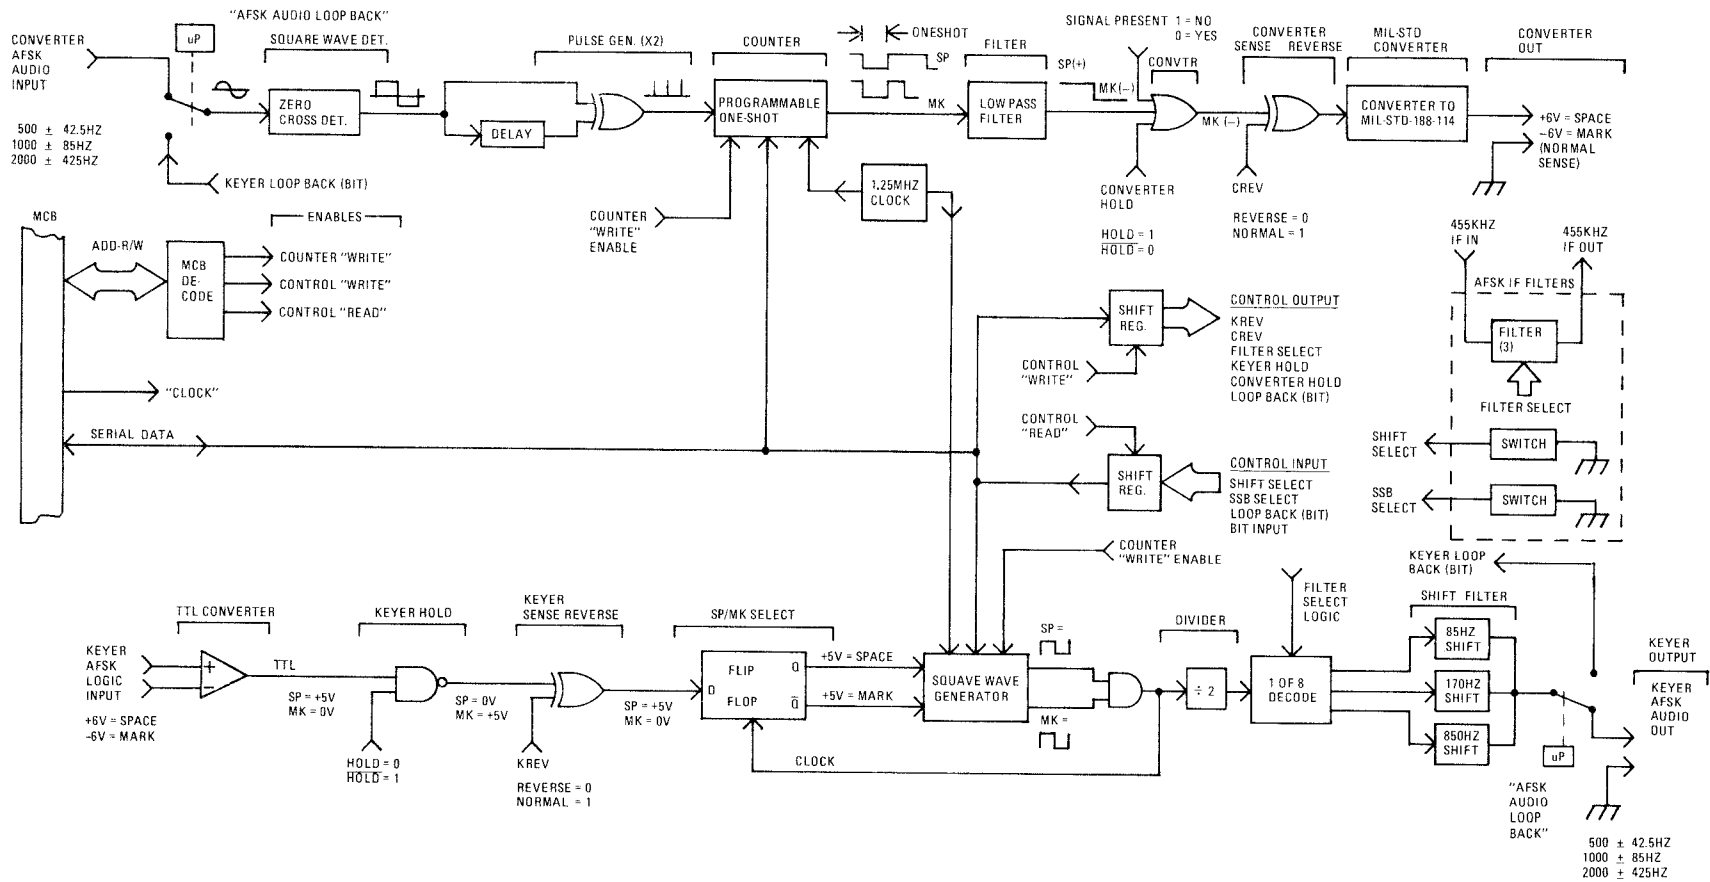
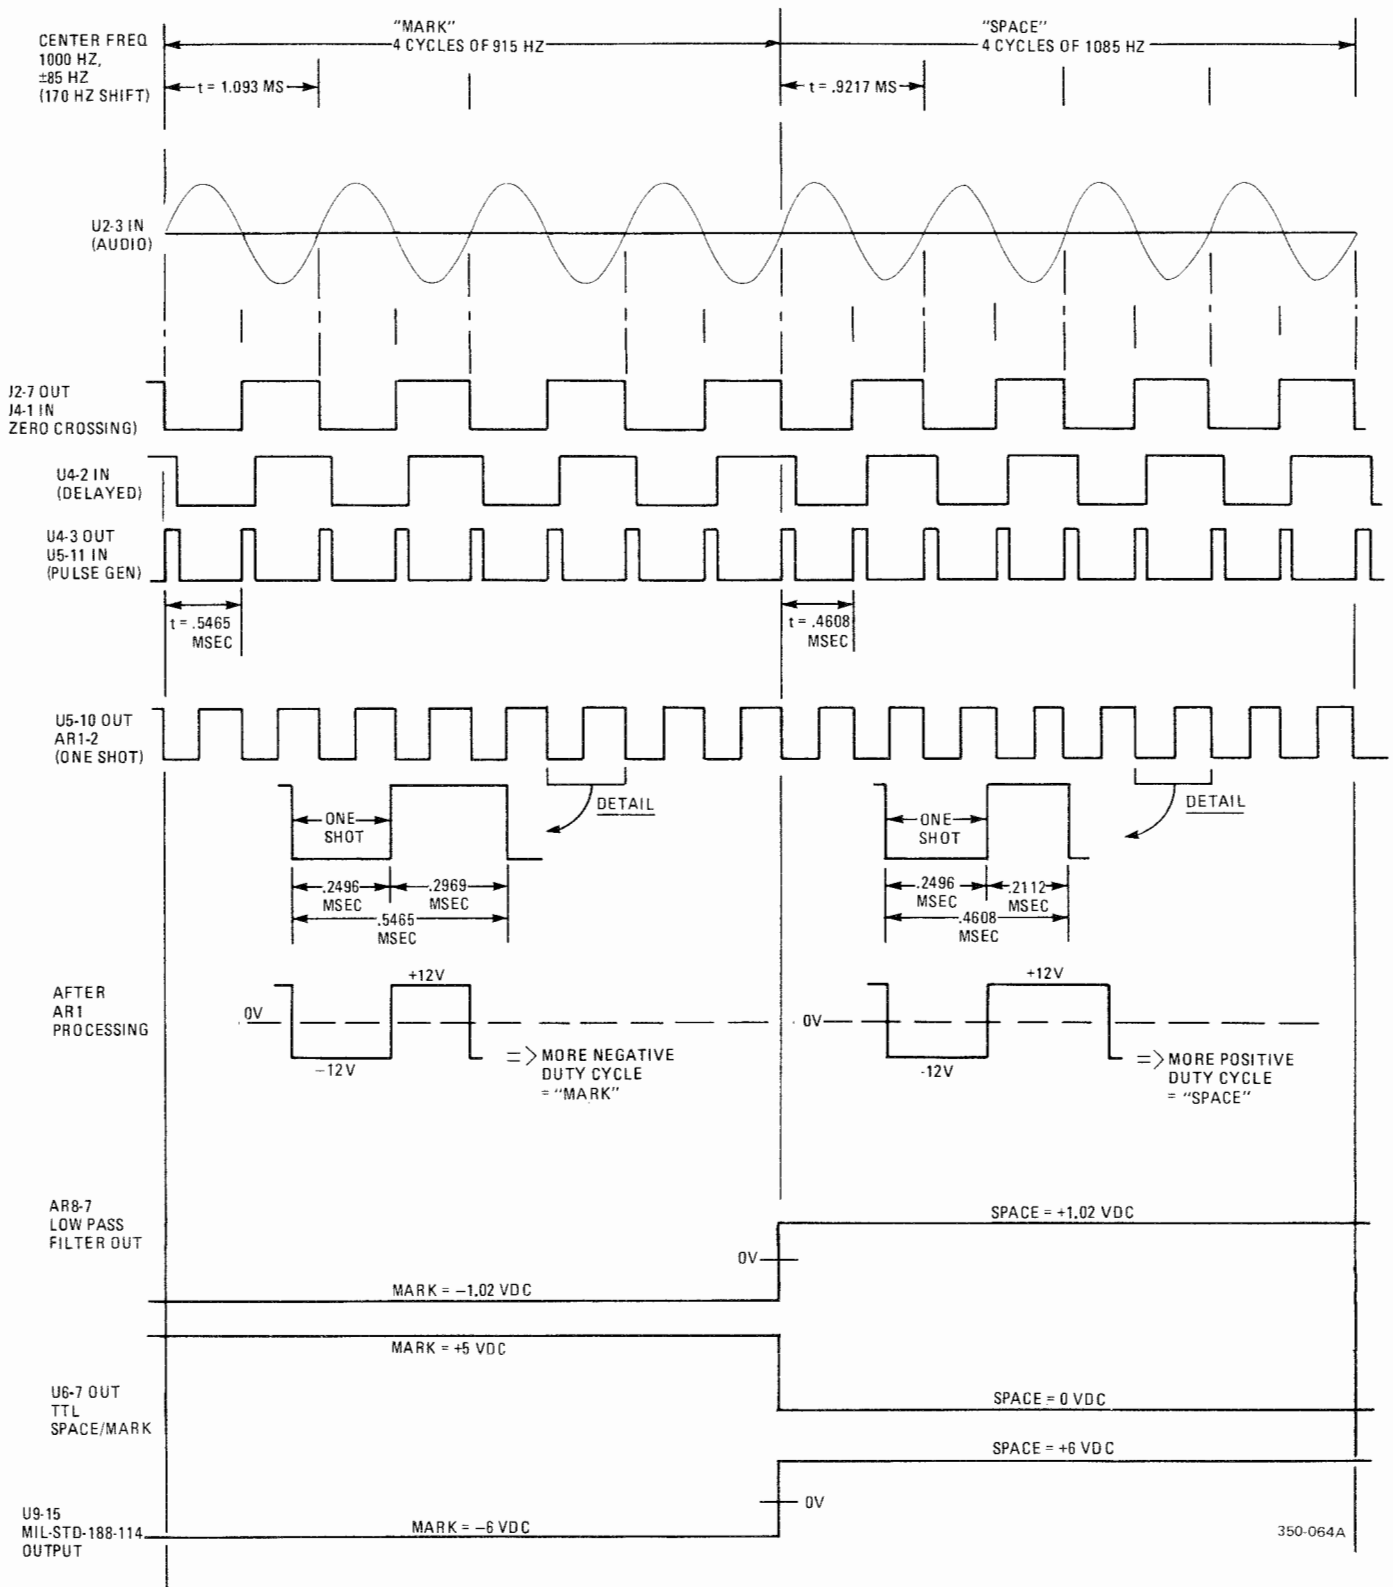

Figure 5-40. Simplified AFSK Operation Diagram
Figure 5-41. AFSK Converter Timing Diagram
- a. AFSK Operation Simplified Diagram Figure 5-40
- b. AFSK Converter Timing Diagram Figure 5-41
As shown in figure 5-40, the AFSK Assembly consists of two primary circuits; the Keyer portion and the Converter portion. A teleprinter "space" and "mark" input and output DC voltages are converted or keyed into audio signals for radio transmission/reception. The Keyer circuits are used to convert input DC voltage levels representing "space" and "mark" into output audio tones for "space" and "mark". The Converter circuits are used to convert input audio "space" and "mark" tones to output DC voltage levels representing "space" and "mark". The radio transmission/reception of the TTY tones may be on upper or lower sideband (selectable), and there is a selection of three audio shift frequencies, as listed below. The sideband and shift selection switches are located on the AFSK Assembly.
For the discussion of the detailed AFSK Converter circuit description, reference simplified diagram figure 5-40, timing diagram figure 5-41, and the schematic diagram. Although the AFSK frequencies are as listed above, conversions are made such that the AFSK module operates with the following center frequencies and shifts:
- d. Frequency Doubling Pulse Generator. The square wave signal representing the audio input is applied directly to U4A-1, and via a delay network to U4A-2. Since U4A is an exclusive-OR gate, the output at U4A-3 will be logic low when U4A-1,2 inputs are both logic high or both logic low, and U4A-3 will be logic high when U4A-1,2 inputs are at different logic levels. The effect, as shown in figure 5-41, is to double the input frequency into sharp, narrow pulses.
For the discussion of the detailed AFSK Keyer circuit description, reference simplified diagram, figure 5-40, and the schematic diagram. Although the AFSK frequencies are as listed in paragraph 5-84, conversions are made such that the AFSK module operates with the following center frequencies and shifts: